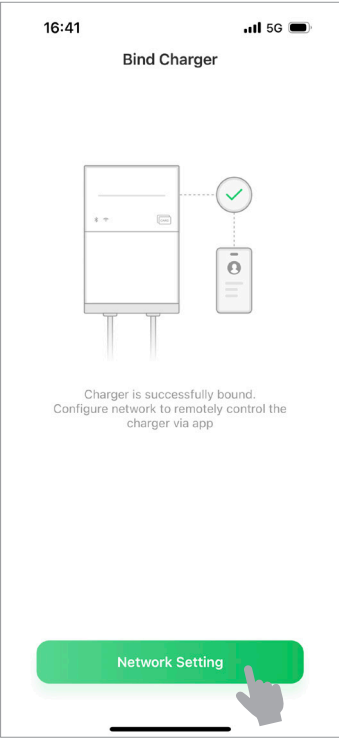
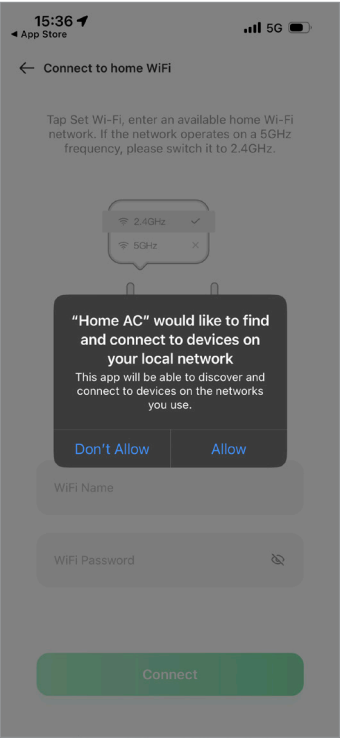

Fig. 6-9
Fig. 6-10
1. After the charger is successfully connected via Bluetooth, tap "Network Setting" (See Fig. 6-9). Tap "Allow" when the Attention message pops up. (See Fig. 6-10)